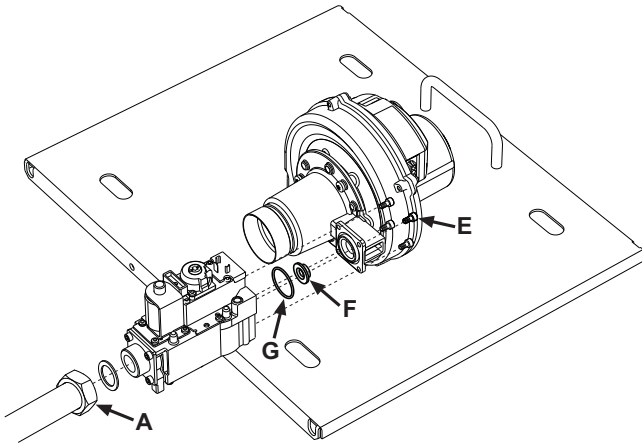
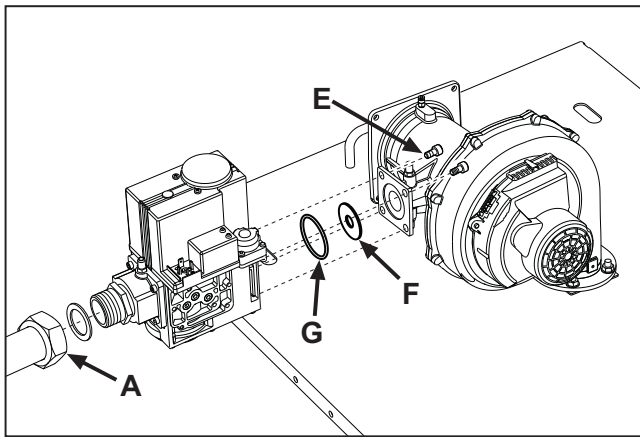
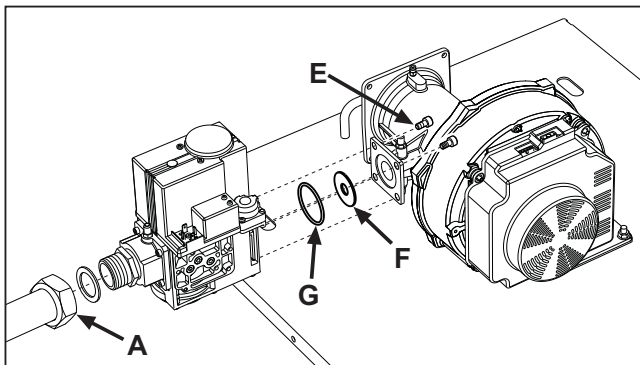

fig. 26 - Model QUADRIFOGLIO 125
fig. 27 - Model QUADRIFOGLIO 220
fig. 28 - Model QUADRIFOGLIO 320
4. Unscrew the knob "A" fastening the gas valve (see fig. 26, fig. 27 and fig. 28 for the various models).